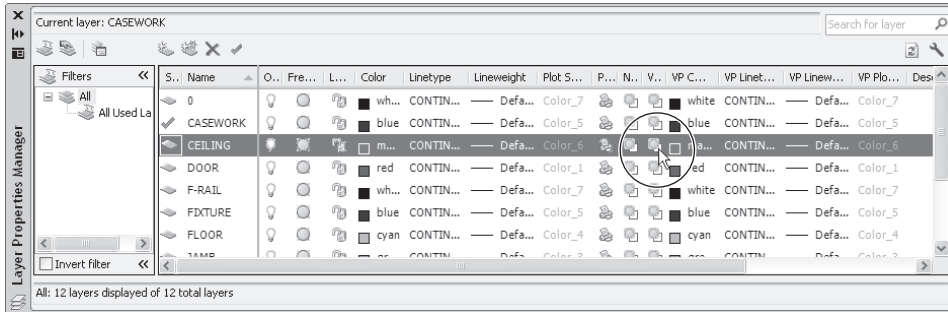

Figure 12.15
- Look for the VP Freeze column for the selected layer. You might need to widen the Layer Properties Manager dialog box or use the scroll bar at the bottom of the dialog box to find this column. The VP Freeze column is the twelfth column from the left side of the dialog box. The icon looks like a rectangle behind a sun. The sun tells you the layer is on for the current viewport (see Figure 12.15).